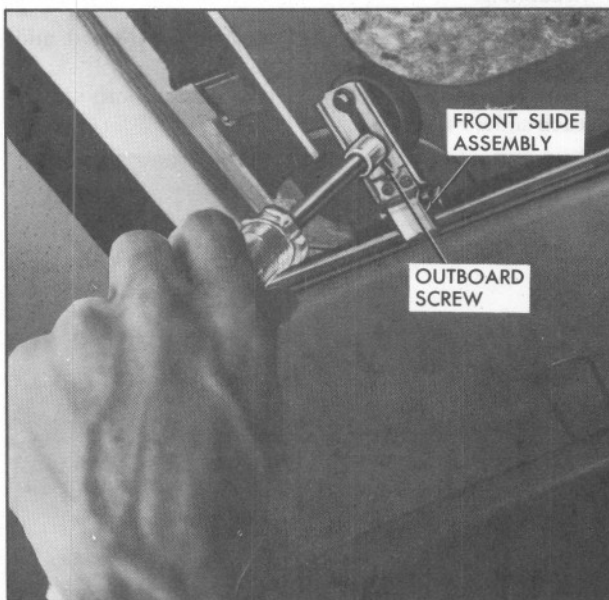

Fig. 15-32 Removing Outboard Screw From Front Slide Assembly
6. Remove outboard screw from each front slide assembly, Fig. 15-32.
3. Install right slide and cable assembly in same manner as left slide and cable assembly, except that right cable is routed in straight center track in drive cable housing and into lower track on left side, Fig. 15-32.